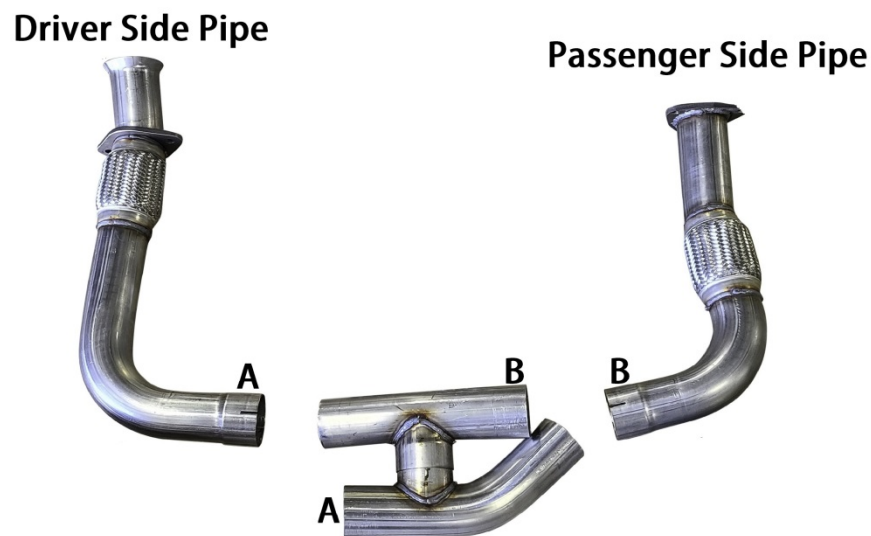

Figure 1
**Step #2:** Place one of the supplied 3" band clamps over the Driver Side Pipe (A). See **Figure 1**.
**Step #3:** Loosely slide the Driver Side Pipe (A) onto the H section (A).
**Step #4:** Place the supplied 3" band clamp over the Passenger Side Pipe (B). See **Figure 1**.
**Step #5:** Loosely slide the Passenger Side Pipe (B) onto the H section (B).